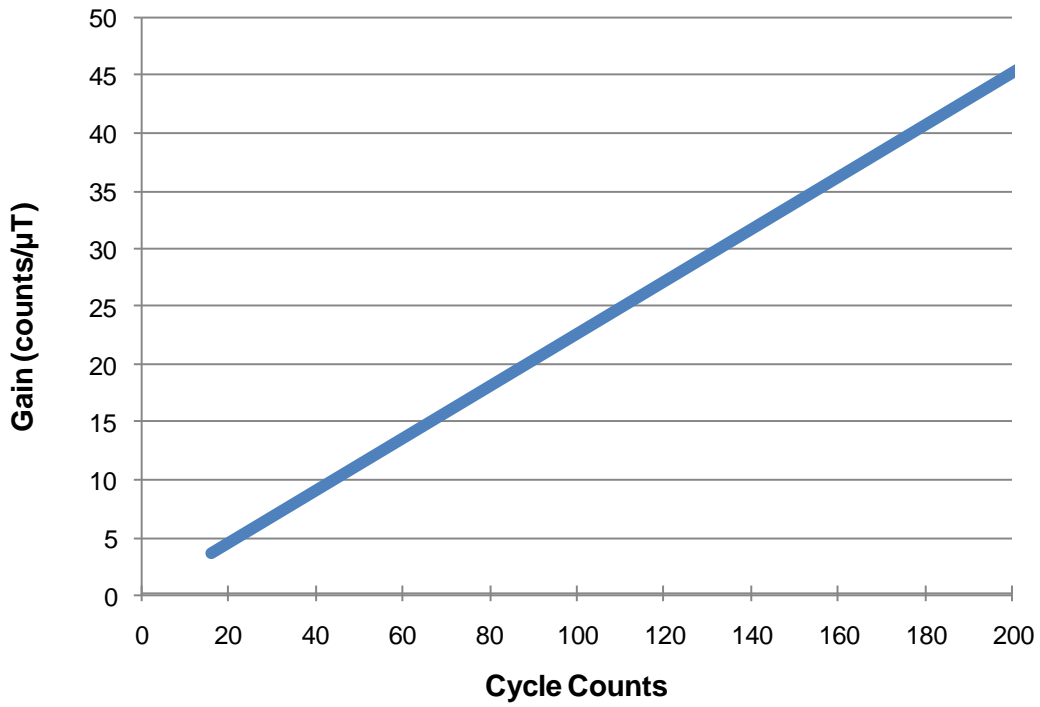
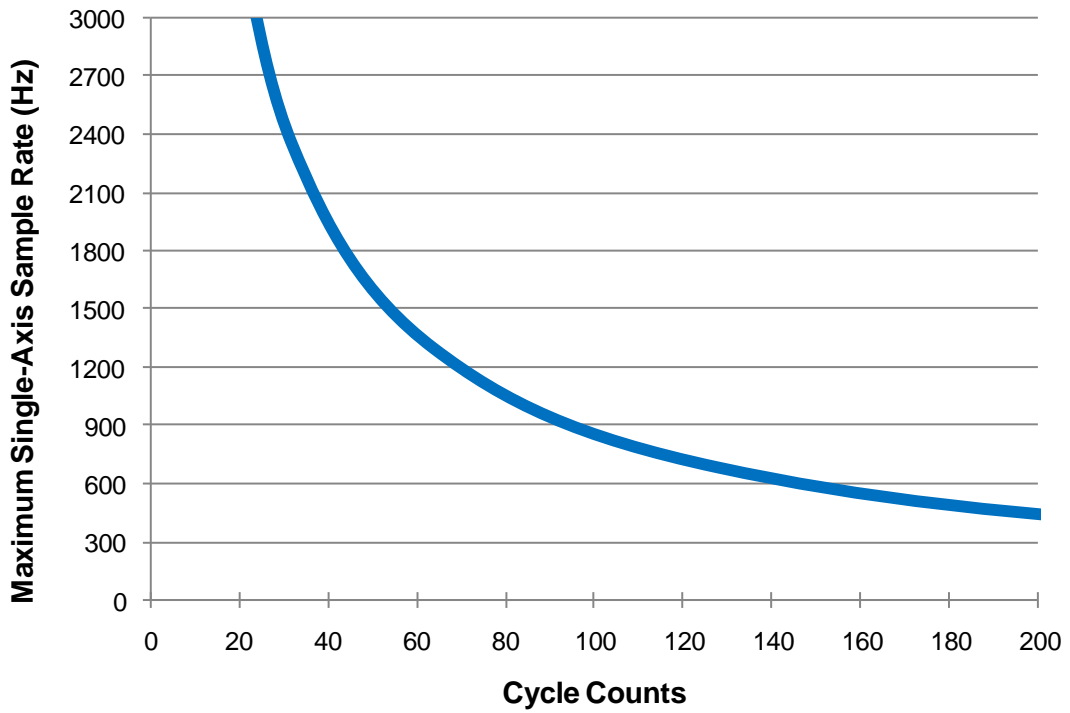
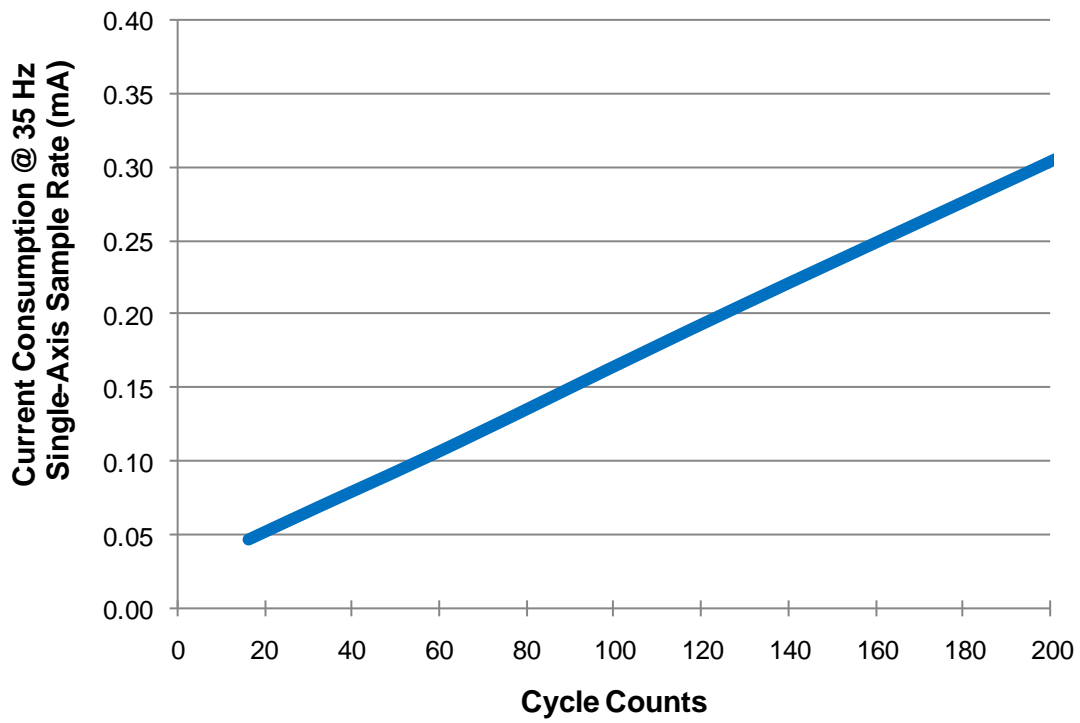

Figure 3-4: Gain vs. Cycle Counts – Standard Mode
Figure 3-5: Single-Axis Sample Rate vs. Cycle Counts – Standard Mode
Figure 3-6: Current Consumption vs. Cycle Counts – Standard Mode
3. Gain and noise are related to useable resolution. Below ~200 cycle counts the gain setting dominates the usable resolution (resolution = 1/gain) while above ~200 cycle counts the system noise dominates. The user establishes the gain value by setting the Cycle Count Register value. See Figure 3-4 for the typical relationship between cycle counts, gain, and resolution. Above ~200 cycle counts noise is relatively constant and there are diminishing returns in usable resolution as the cycle count value increases. Also, performance will vary from sensor to sensor: ~50% of the sensors will have performance greater than "Typical" and ~50% less than "Typical".
4. The maximum sample rate and gain/resolution are inversely related, so higher sample rates can be obtained by reducing the number of cycle counts, but this also results in reduced gain and resolution. Also see Figure 3-4 and Figure 3-5.
5. Operating at reduced cycle counts reduces current consumption, but also reduces resolution. Operating at greater cycle counts increases current consumption but, due to system noise, does not significantly increase useable resolution. Also see Figure 3-6.
Figure 3-4, Figure 3-5, and Figure 3-6 show performance when operating in Standard Mode out to 200 cycle counts. Operation in Standard Mode at more than 200 cycle counts usually is inefficient since more time and power is consumed per measurement, with diminishing returns in usable (noise-limited) resolution.